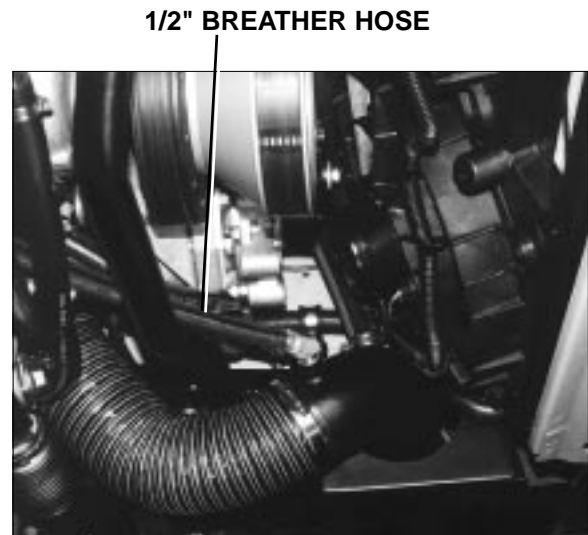

Figure: 19-a
- Route the hose from the valve cover forward along the fender apron, down near the air conditioning compressor and then along the front frame K-member to the 1/2" barb on the inlet duct. Secure with a #8 clamp. (See *Figure 19-a*.)